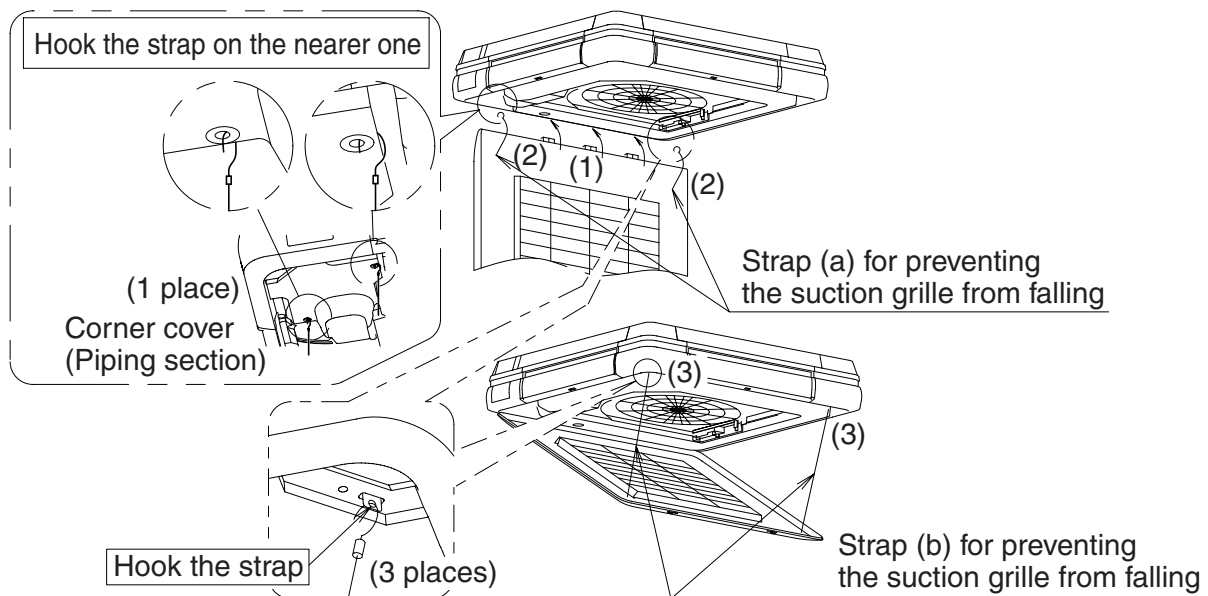

Fig. 47
- After attaching the suction grille in opposite order mentioned in the clause “4. PREPARATION BEFORE INSTALLATION - (3)” **(Refer to Fig. 47-(1))**, hook the strap (a) for preventing the suction grille from falling. **(Refer to Fig. 47-(2))**
- Hook the strap (b) for preventing the suction grille from falling. **(Refer to Fig. 47-(3))**